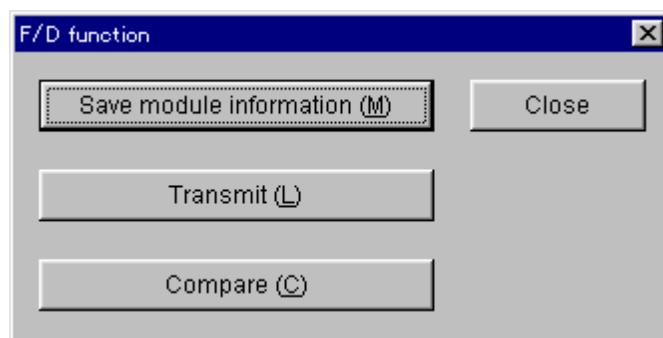

Figure 3-4 [F/D function] Window
- (1) Click the Save module information button on the [F/D function] window (Figure 3-4).
- (2) The [Save As] window is displayed.
- (1) Click the Transmit button on the [F/D function] window (Figure 3-4).
- (2) [Open] window is displayed. Either enter in the “File name” or click the file to be sent. Only when the file is selected, “PCs number,” “PCs type,” “Date of creation,” “File size,” “File comment,” and “Address” of the IR.LINK system information (file) to be sent will be displayed.